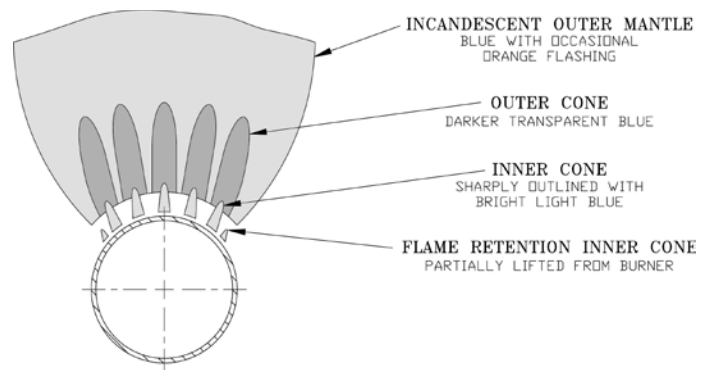

Figure 56: 40mm Main Burner Flame
3. Check main burner flames. See Figure 56 or 57. Flame should have clearly defined inner cones with no yellow tipping. Orange-yellow streaks caused by dust should not be confused with true yellow tipping.